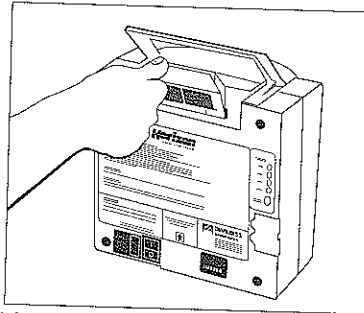

Figure 10
1. The air-inlet filter should be checked daily. The filter is located directly under the handle. Press the filter grill down 45° and pull out from the unit **Figure 10**.